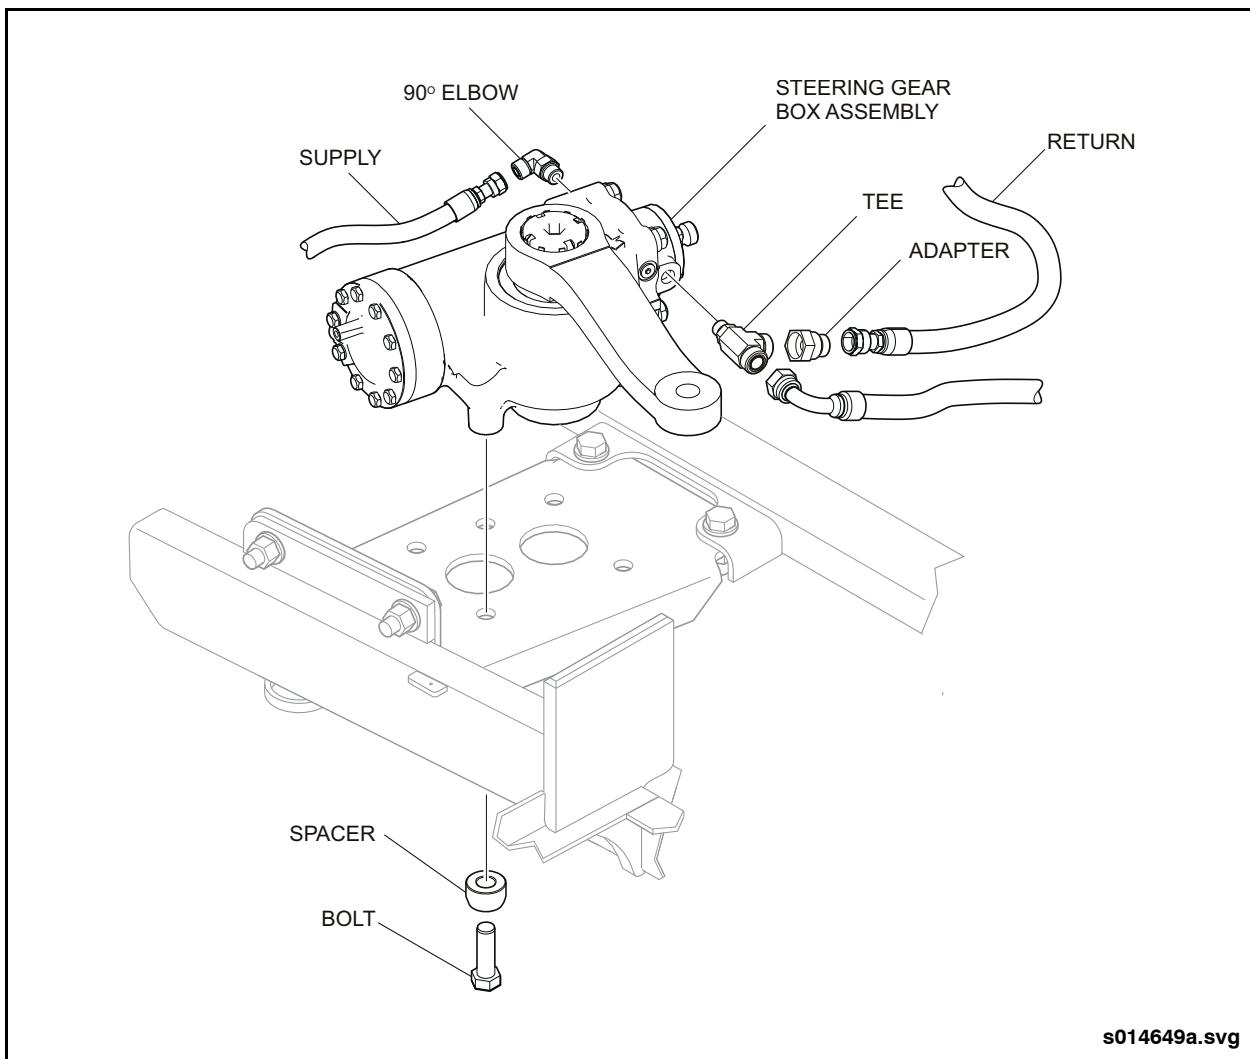

Fig. 3-17: Steering Gearbox Removal & Installation
5. Disconnect the pressure and return hoses and from steering gearbox and cap the hoses. See "Fig. 3-17: Steering Gearbox Removal & Installation" on page 33.